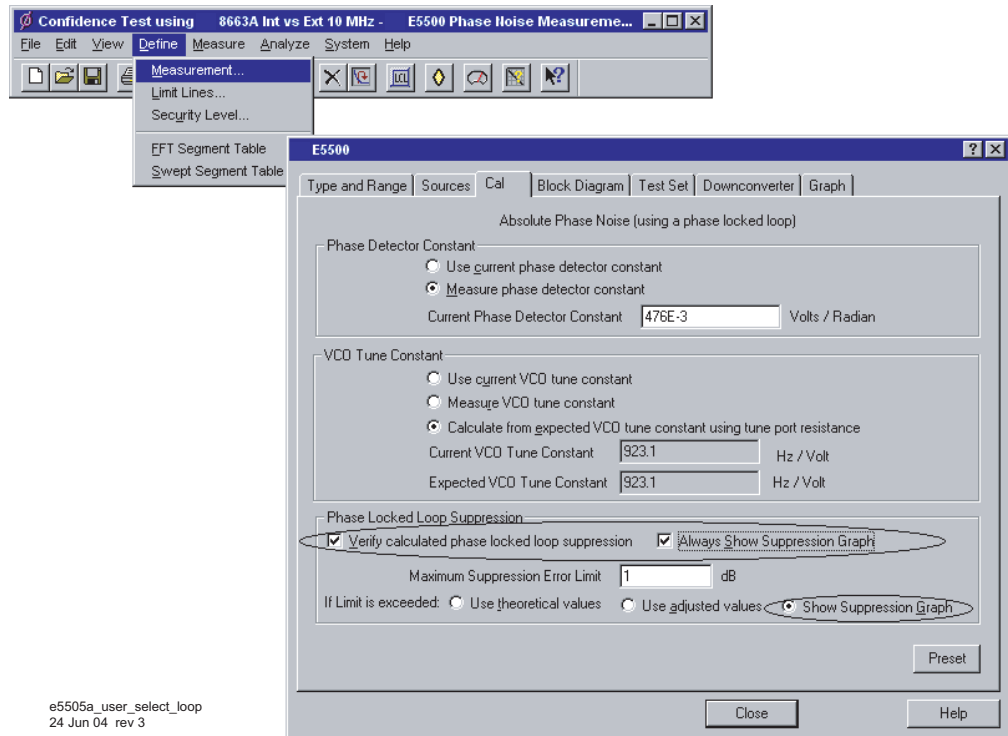

Figure 88 Selecting loop suppression verification
- 1 Using Figure 88 on page 134 as a guide, navigate to the **Cal** tab.